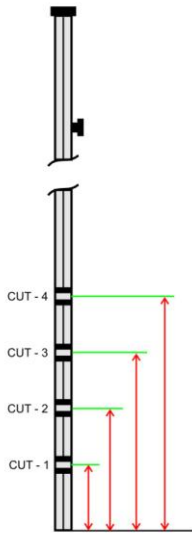

Figure 7.
3. Locate the cut number on the ladder and mark it. (See *Figure 7*, on the next page.)